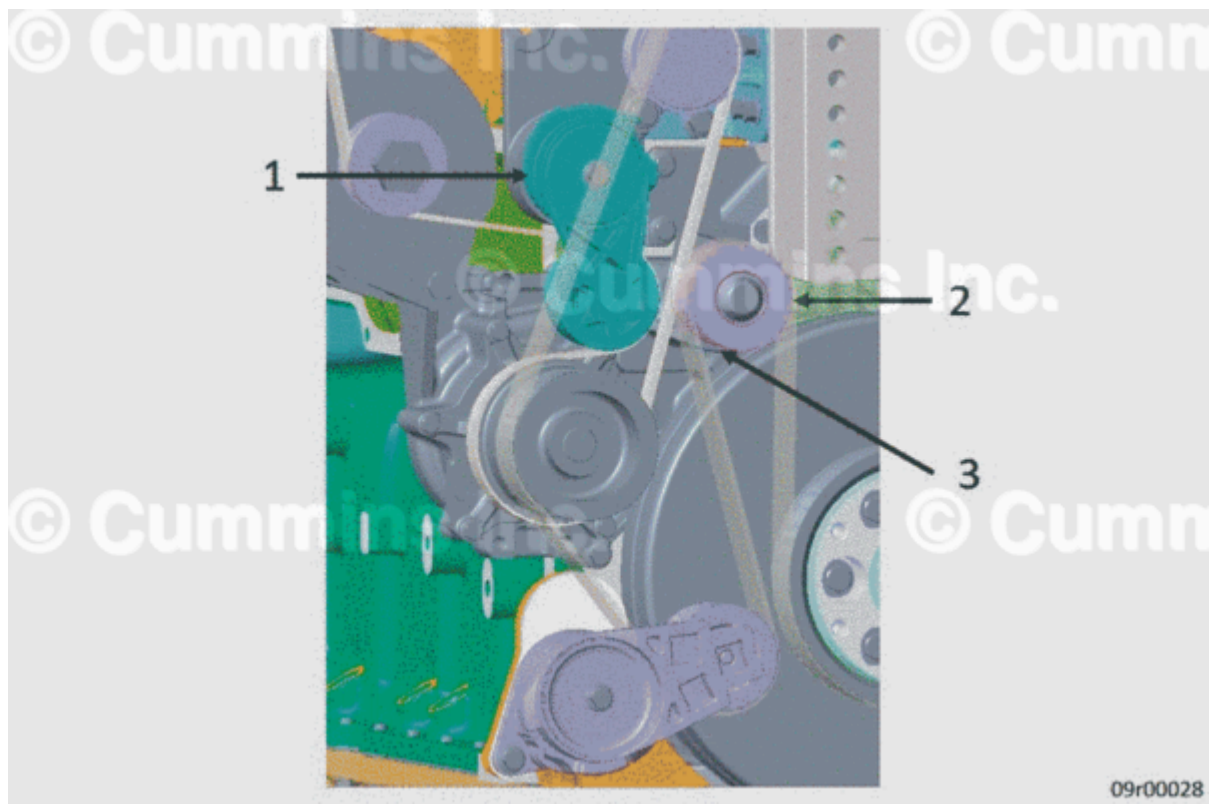

Figure 1, Drive Layout
3. Remove primary idler pulley, part number 3681587, and pilot adapter, part number 3681715. See Figures 1 and 2. Refer to Procedure 008-062 (</qs3/pubsys2/xml/en/procedures/10/10-008-062-tr.html>).
4. Remove secondary tensioner, part number 3104027. See Figure 1. Refer to Procedure 009-053 (/qs3/pubsys2/xml/en/procedures/10/10-009-053-tr.html).